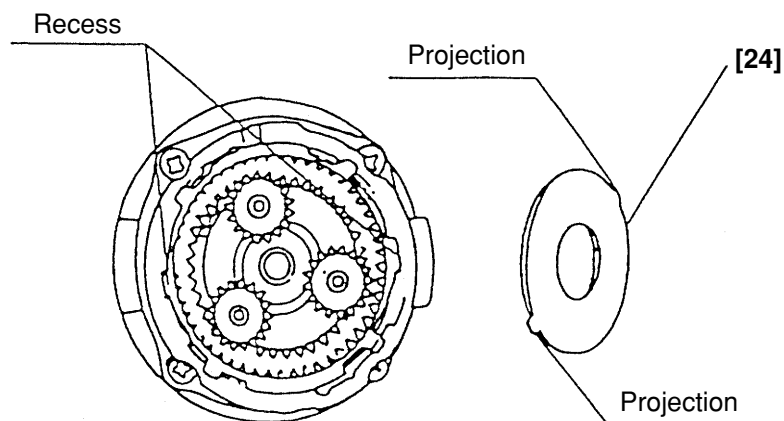

Fig. 11
- (iii) Install Washer (B) [24] in the Rear Case [15] with the projections of Washer (B) [24] engaged with the recesses in the Rear Case [15], and turn Washer (B) [24] clockwise until it can turn no further. (See Fig. 11.)